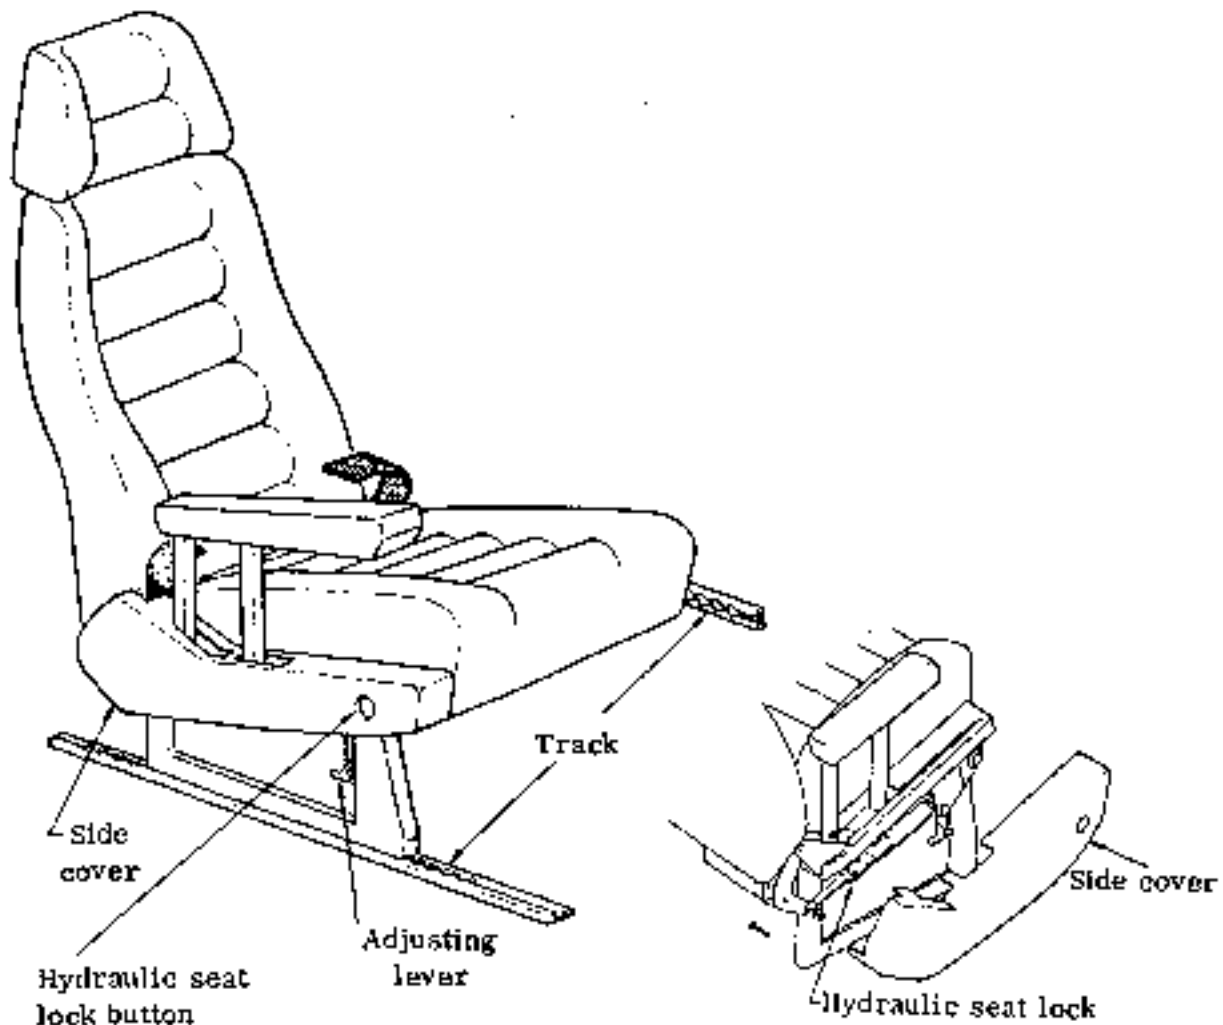

Fig 11-3 One passenger seat
3.1 REMOVAL AND INSTALLATION (See Fig. 11-3)
3.2.1 REMOVAL AND INSTALLATION (See Fig. 11-3)